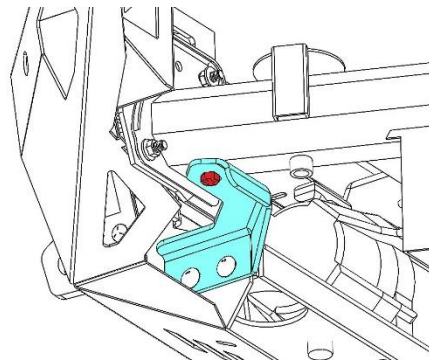

Figure 8
30. You can now install the two braces (blue bracket in **Figure 8**) which tie the bumper primary mounts into the factory tow hook mount (red bolt in **Figure 8**). Use 2x 12mm carriage bolts on the bumper side retained with 12mm flange nuts, and 14mm flange bolt on the frame side.